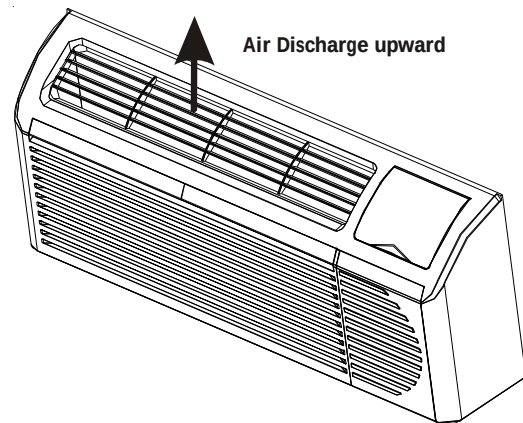

Figure 13A
3. Turn louver insert and rotate 180°. See Figures 13A & 13B.